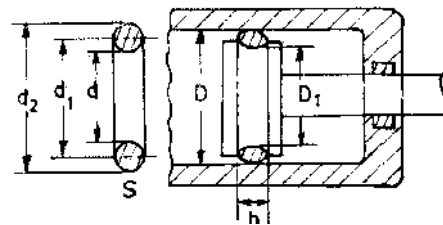

Fig.4.4
7. Fig. 4.4 shows O-Rings and its application in sealing moving parts. The O-ring is designated by the dimensions